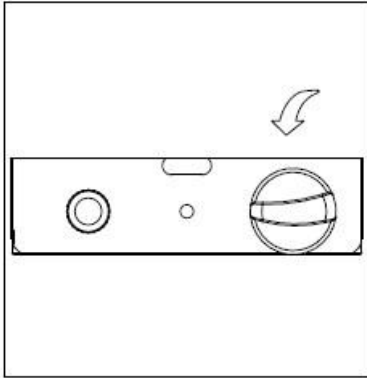

Figure 3
-Push in control knob and turn counterclockwise to "PILOT" (Figure 3).